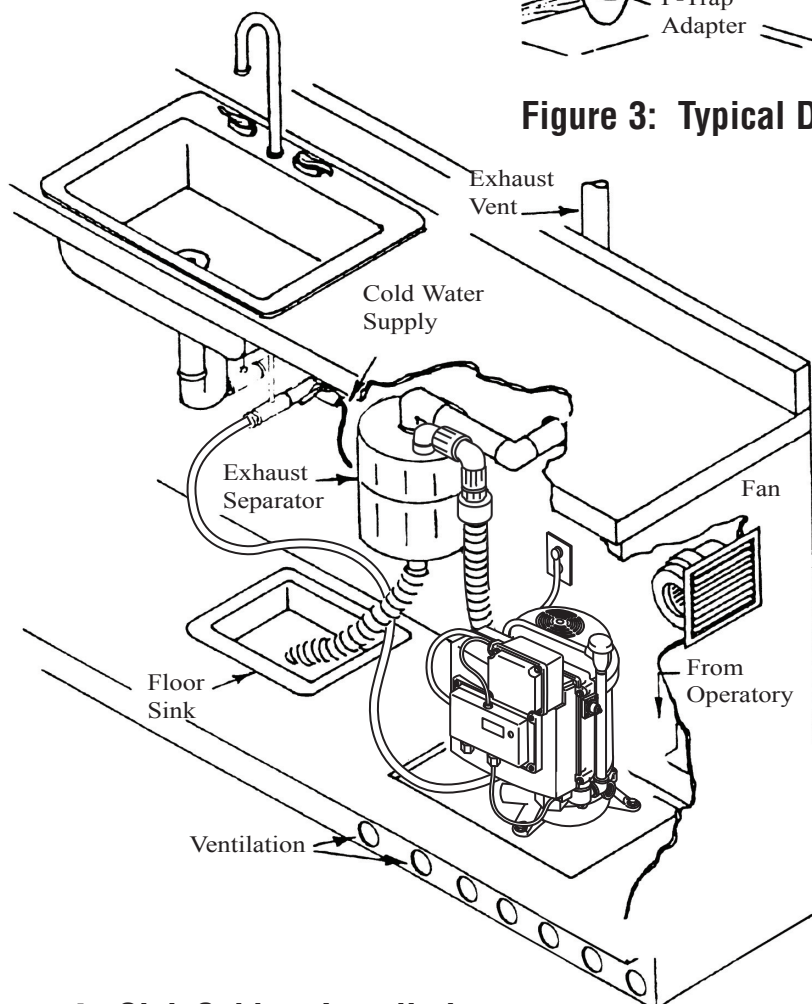

**Figure 2: Water Connection**
- (e) Connect the cold water supply. See Figure 2. Turn the water on and check for leaks in the water control assembly.
THE TEE WILL ALWAYS MATCH MAIN LINE SIZE. USE REDUCER BUSHINGS TO MATCH BRANCH (OPERATORY) LINE. LINE SIZES WILL DECREASE WITH NUMBER OF OPERATORIES AS SHOWN ON CHART IN FIG. 2.
SEE FIGURE 2 FOR CORRECT MAIN OR BRANCH LINE SIZE ON YOUR SYSTEM.
WHEN INSTALLING OVERHEAD PIPING SYSTEM USE THESE BRANCH LINE TAKE OFF EXAMPLES: YOU MUST NOT DEVIATE FROM THESE EXAMPLES ON OVERHEAD SYSTEMS. SEE FIG. 2 FOR CORRECT MAIN OR BRANCH LINE SIZE ON YOUR SYSTEM.